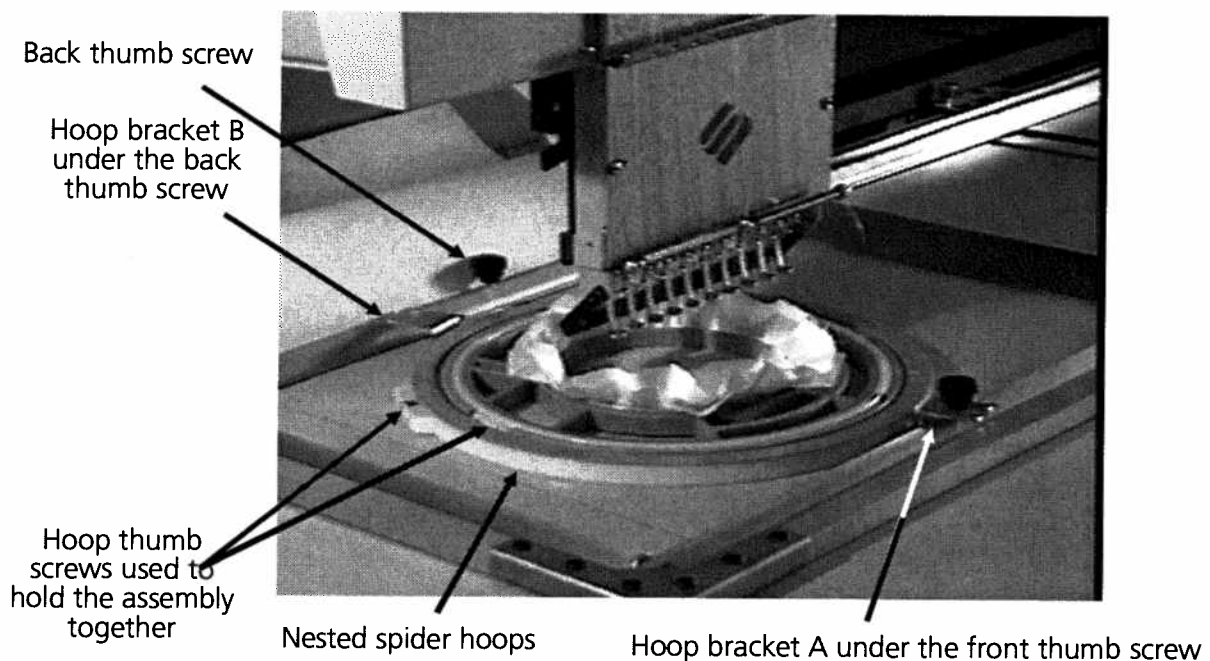

Figure 7-7
2. The 25 cm hoop has two slotted brackets. One slot opens directly away from the hoop (A in Figure 7-7), the other opens to the side (B in Figure 7-7). Slide slot A under the front thumb screw with the hoop tilted to the side.